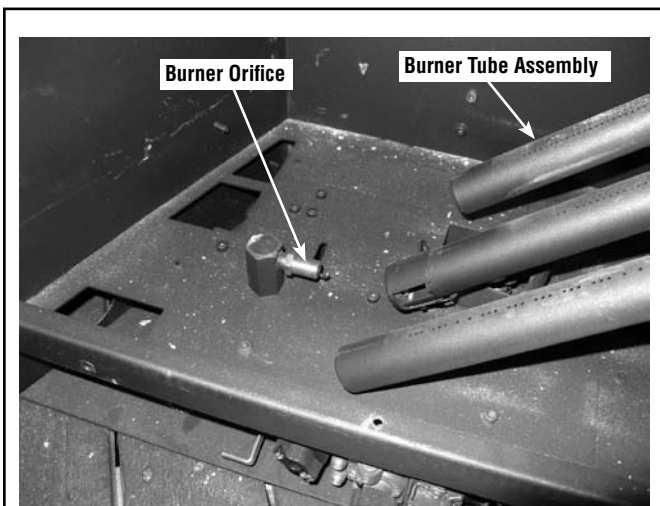

Figure 10 - Remove Burner
Step 8. Slide burner to the right until it comes off the burner orifice. Lift the right end of burner until it releases from the copper rod. See **Figure 10**.